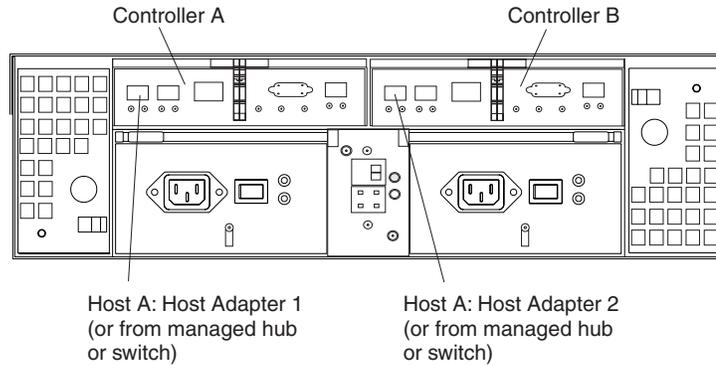

Figure 29. Location of host cables
2. Connect the host-system cables to the RAID controller or to switches. Figure 29 on page 32 shows the location on the RAID controllers where the host-system cables connect.